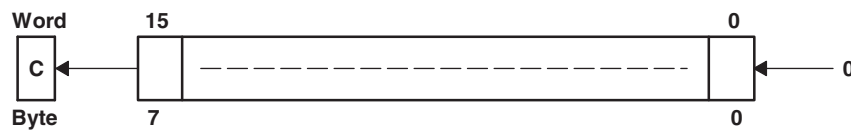

Figure 4-37. Destination Operand—Arithmetic Shift Left
**Description** The destination operand is shifted left one position as shown in Figure 4-37. The MSB is shifted into the carry bit (C) and the LSB is filled with 0. The RLA instruction acts as a signed multiplication by 2.